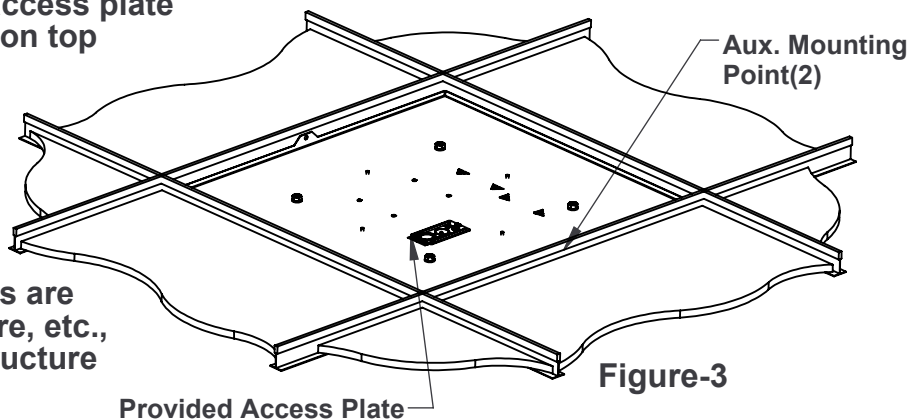

Figure-3
- 3) Make sure electrical supply is NOT energized, then make supply connections in access plate provided in ceiling mounting plate on top of the fixture. (see Figure-3)